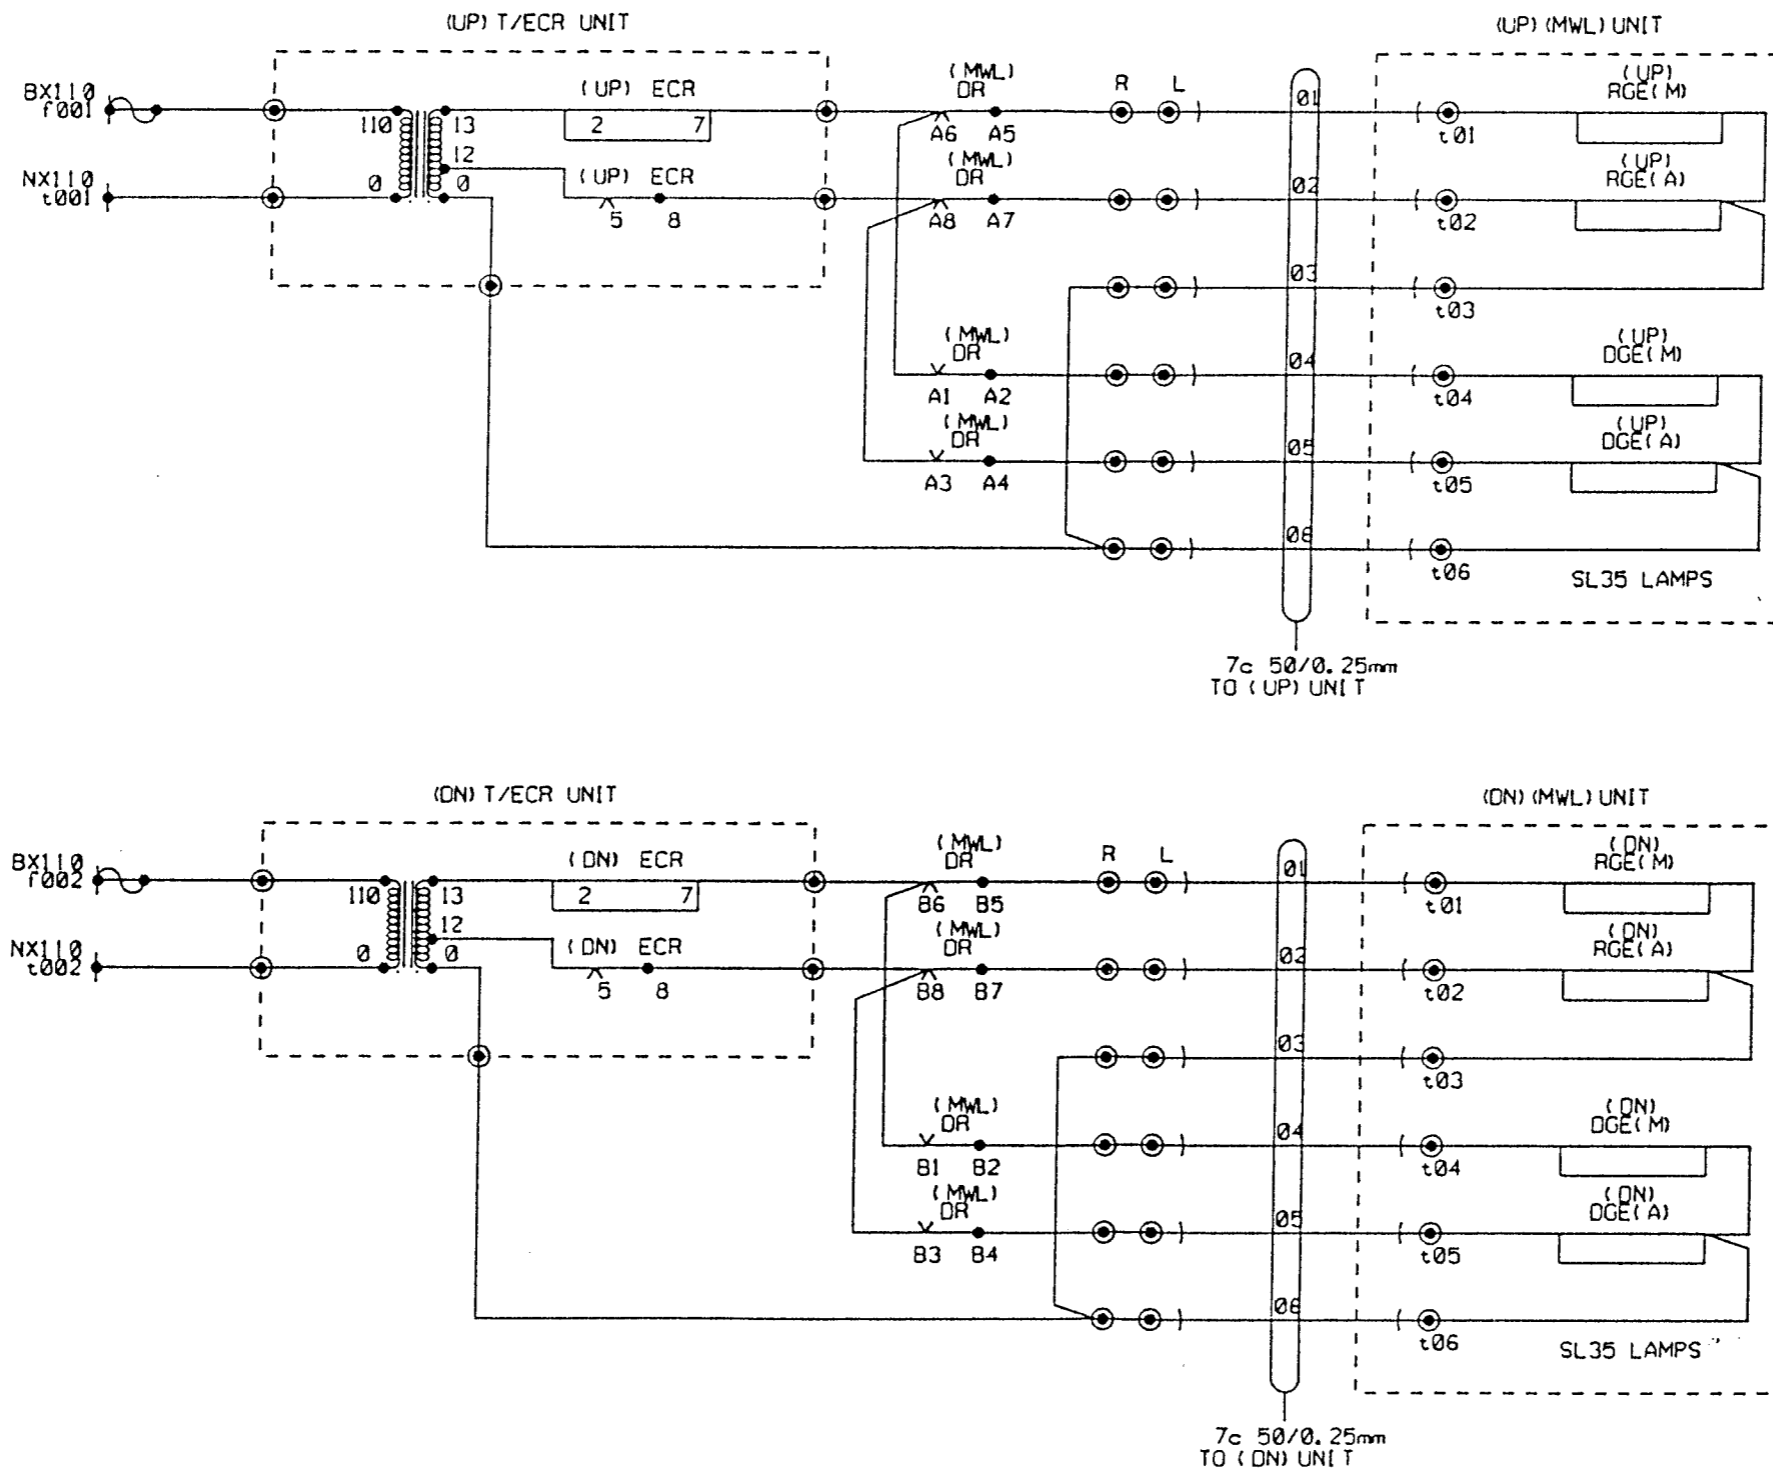

FIGURE 5.
As soon as (MWL)DR energises it has the result of changing the Miniature Warning Lights from Red to Green (Figure 5), and causing the audible warning to cease. (Figure 4).
- ATPSR and B TPSR energised (Figure 4), and replaces the Miniature Warning Lights to Green (Figure 5) and silence the audible warning (Figure 4).